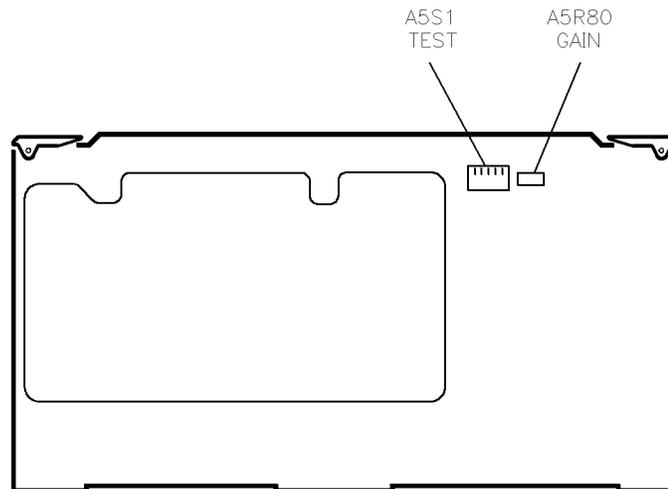

Figure 3-13. Switch and Adjustment Locations
(See Figure 3-13.)
5. Adjust A53R80 (see Figure 3-13) to center the “needle” on the display.